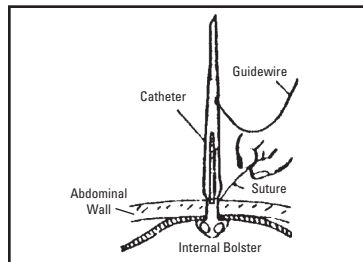

Figure 2
- Grasp the loose end of the tear strip (black suture material located at the distal end of the red strip), and pull up along red strip (away from patient) (Figure 2).